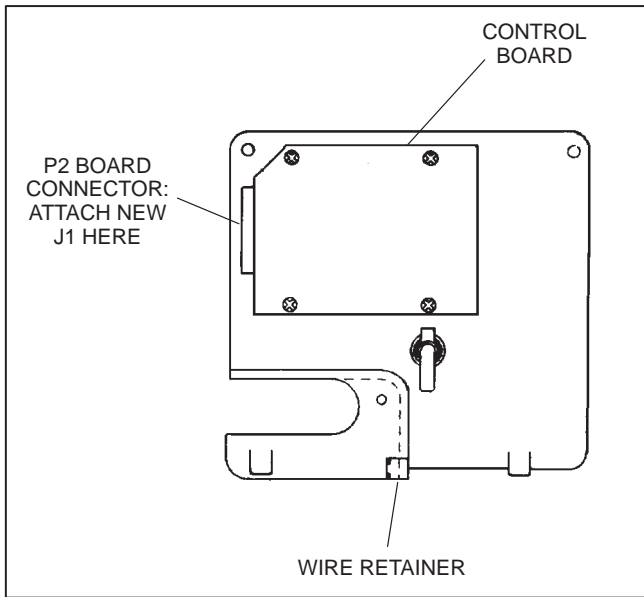

FIGURE 2: BACK OF CONTROL PANEL (REPLACEMENT PANEL)
7. Four of the wires connecting to new J1 pass through the front of the control box. Clip these wires to the retainer located on the lower, inside edge of the control board to secure them in place (Figure 2).